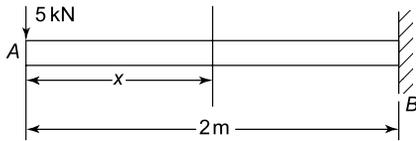

Figure 7.22
**Problem 4.** Calculate and plot the bending moment and shearing force distributions for the cantilever of Figure 7.22.
In the cantilever of Figure 7.22, the left hand end is free and the right hand end is firmly fixed; the right hand end is called the **constrained end**.
At  $x$  in Figure 7.22,  $M = -5\text{ kN} \times x$
At  $x$  in Figure 7.22,  $F = -5\text{ kN}$  (a constant) (7.22)